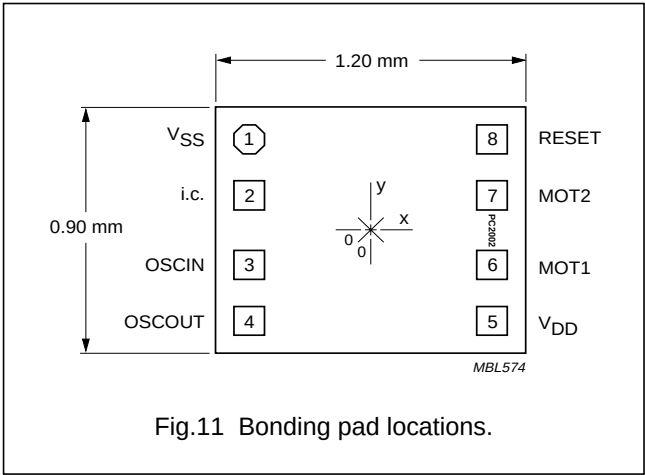

Fig.11 Bonding pad locations.
1. All coordinates are referenced, in μm, to the centre of the die (see Fig.11).